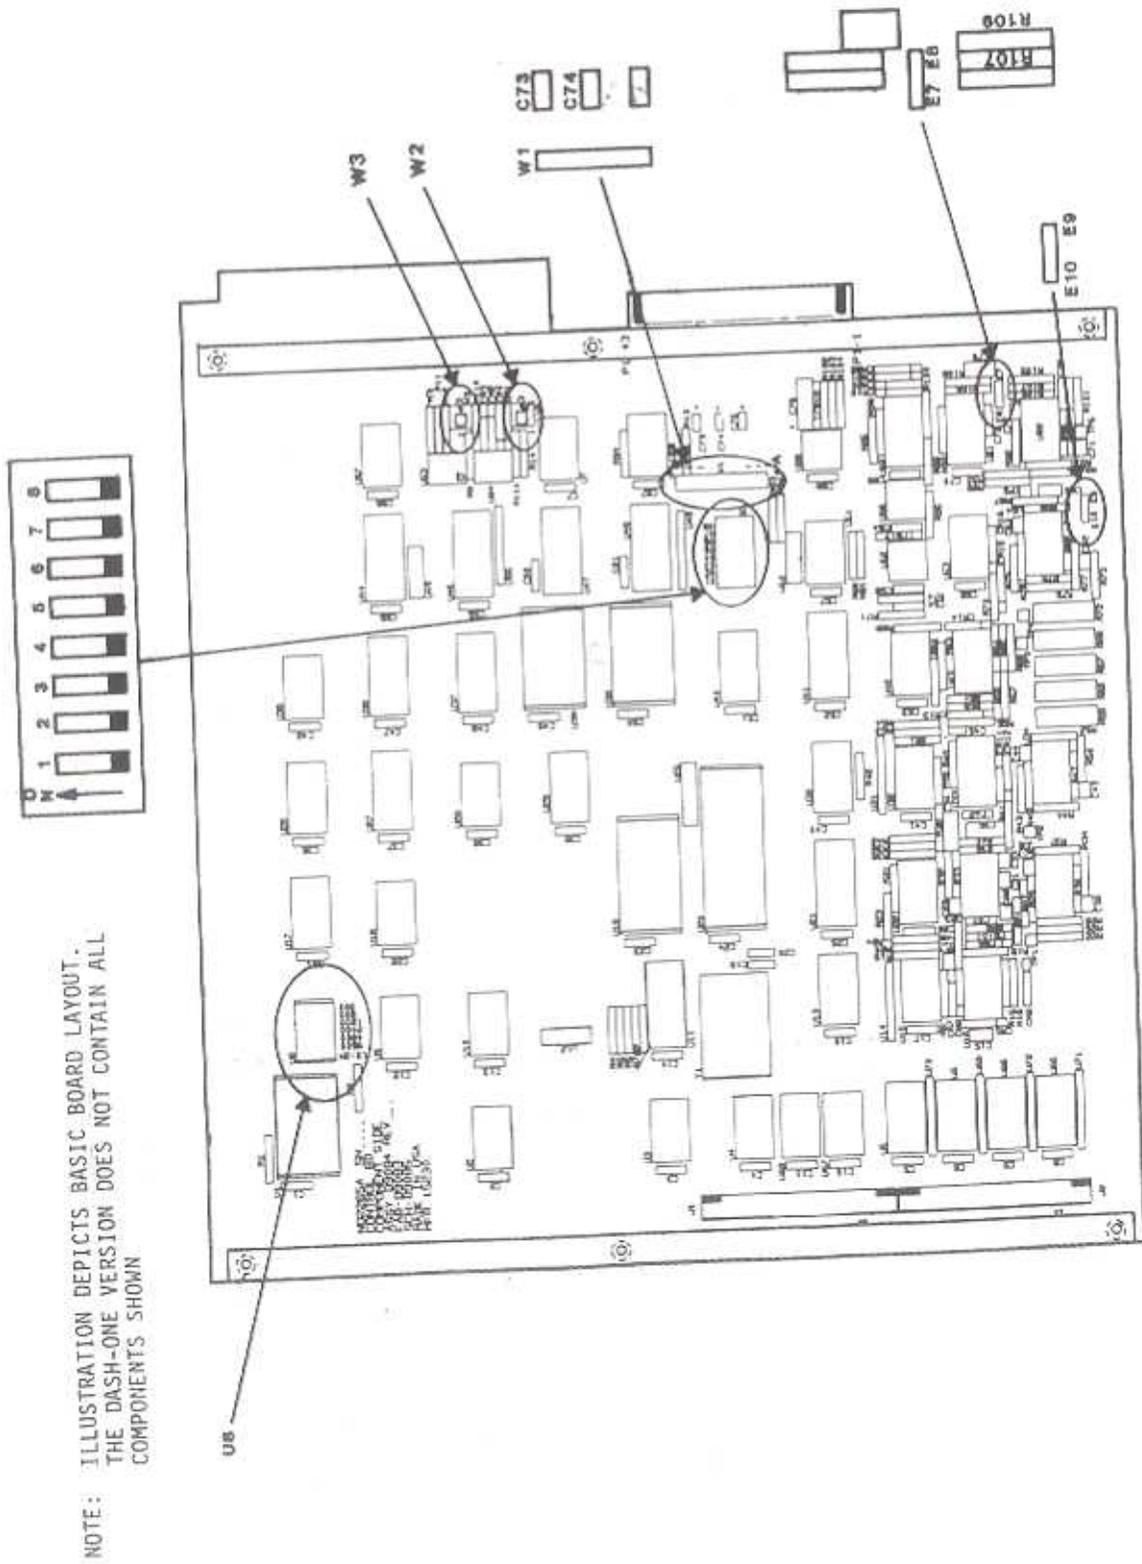

Figure 2-8. Expanded View of Control Board
2.7.1.6 PWB JUMPERS. The following jumpers, illustrated in Figure 2-8, are provided for operations as follows.
2.7.2.3 PWB JUMPERS AND OPTIONS. The following jumpers and options, shown in Figure 2-8, will yield the indicated results: